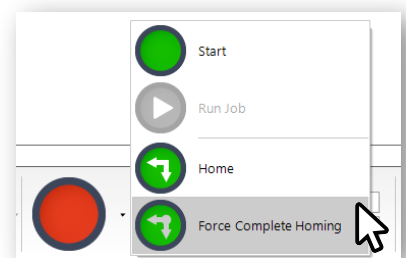

Figure 2
- 2) Click the drop-down arrow next to the green start button at the bottom center of TigerVision and select 'Force Complete Home'. (Figure 2)